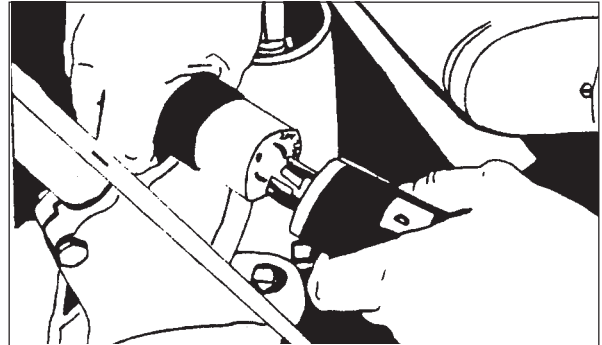
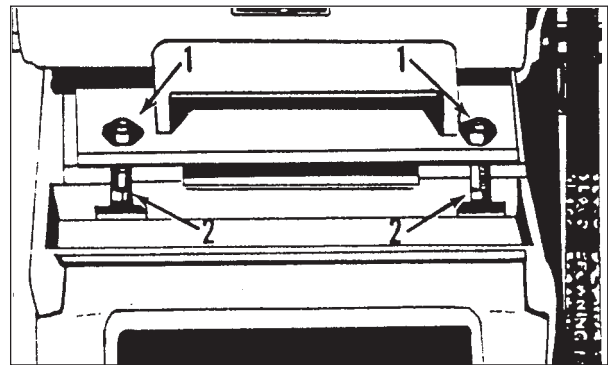

Figure 1
Figure 2
2. Disconnect the handle plug connection. See figure 1.
6. Using the  $\frac{9}{16}$ " wrench, remove the two hex nuts (1).
7. Lower the motor locating screws (2). To lower the motor locating screws, turn the screws clockwise. Make sure the screws are aligned with the openings at the front of the motor platform. See figure 2.